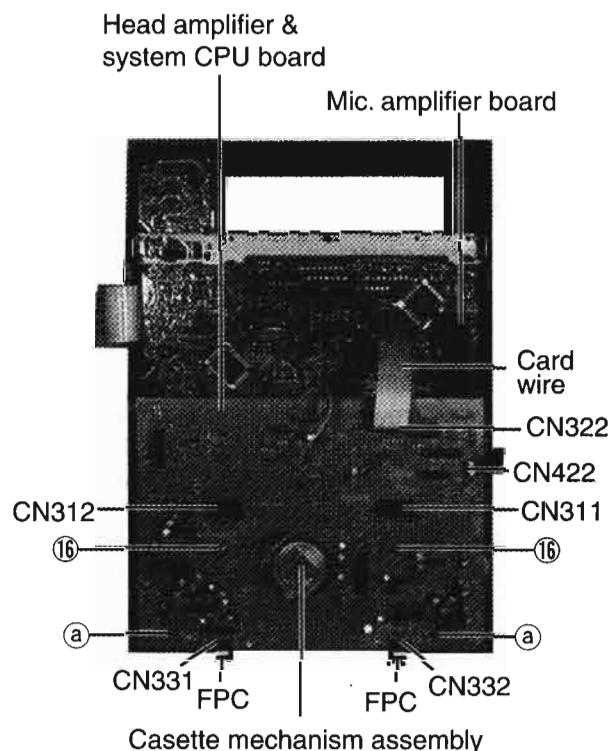

Fig. 14
■ Removal of the Head amplifier & system CPU board (See Figs 14)
4. Remove the two screws ⑯ fastening the head amplifier & system CPU board from the inside of the front panel assembly.(See Fig.14)
8. Disengage the two engagements ⑰ to the cassette mechanism assembly and head amplifier & system CPU board.